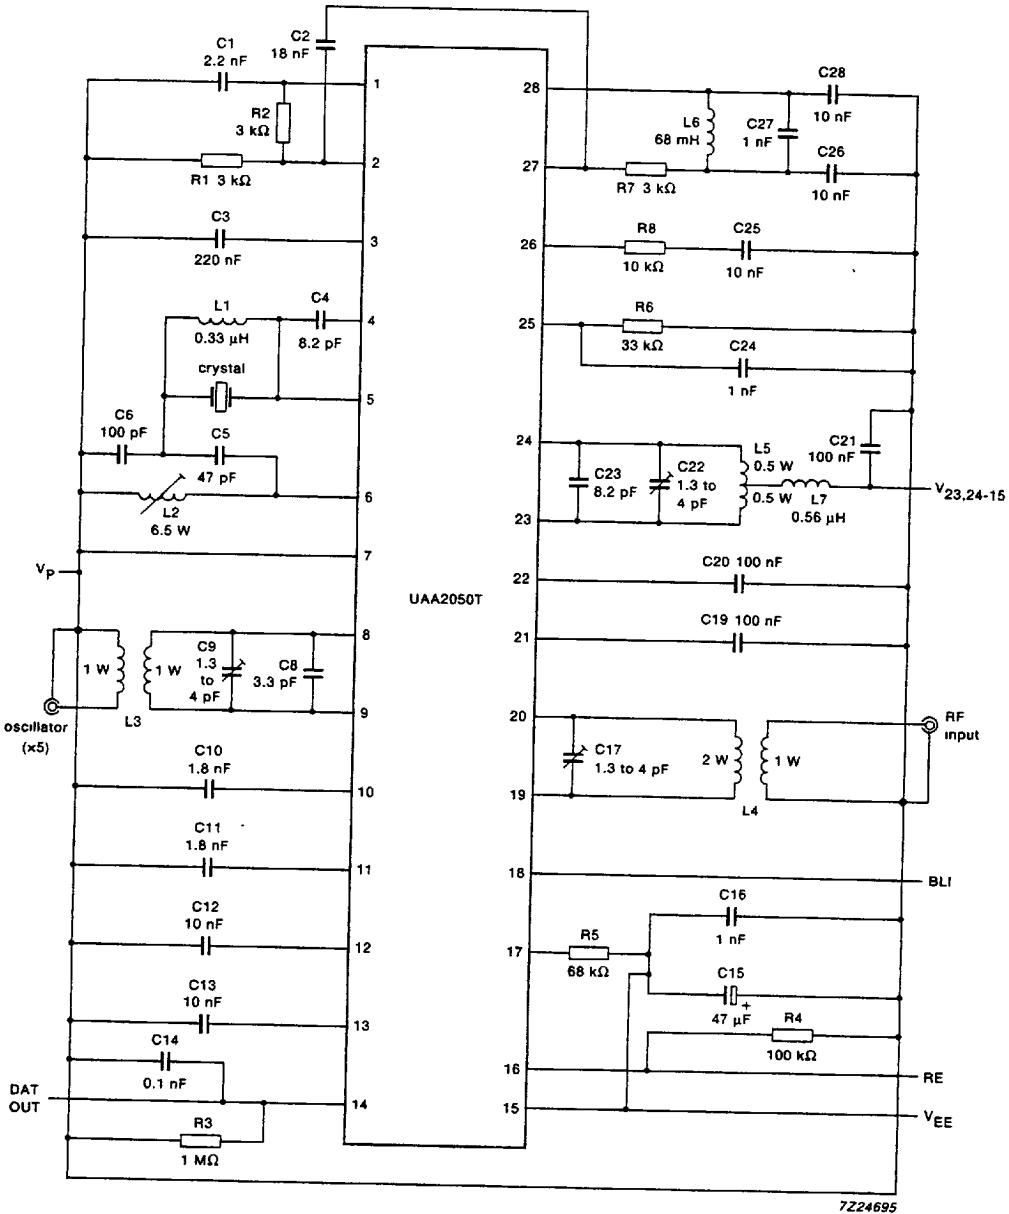

Fig.4 Test circuit (UHF).
For AC test procedures refer to section "TEST INFORMATION". $V_P = 2.0\text{ V}$; $V_{23,24-15} = 1.1\text{ V}$; all voltages referenced to V_{EE} ; $T_{amb} = -10$ to $+55\text{ }^\circ\text{C}$; typical values measured at $T_{amb} = 25\text{ }^\circ\text{C}$; test circuit as Fig.4 and printed-circuit board layout as Fig.7; test signal: $f = 469.200\text{ MHz}$; deviation = $\pm 4.5\text{ kHz}$; modulation = 256 Hz rectangular; channel spacing = 25 kHz ; unless otherwise specified
1. After performing the DC tests, prepare the device for AC testing (as shown in Fig. 4).
For information concerning the crystal oscillator and inductors, refer to Fig.4.